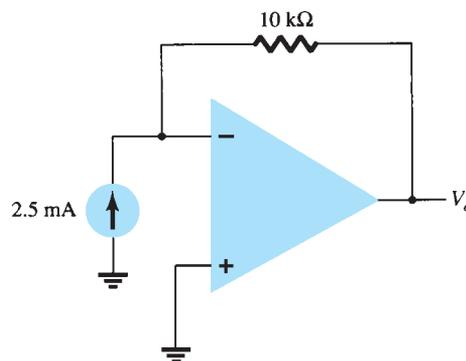

FIG. 11.54
12. Calculate V_o for the circuit of Fig. 11.54.